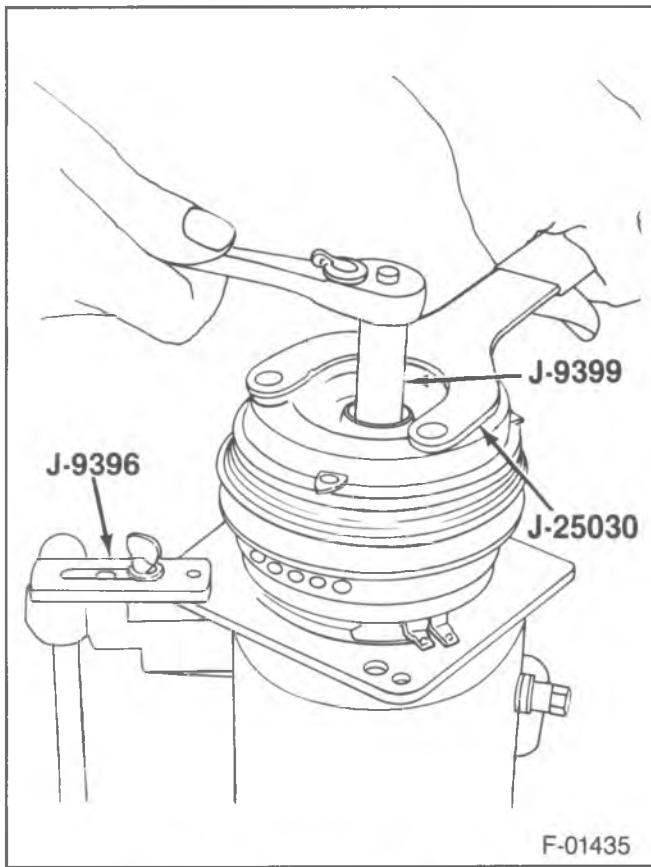
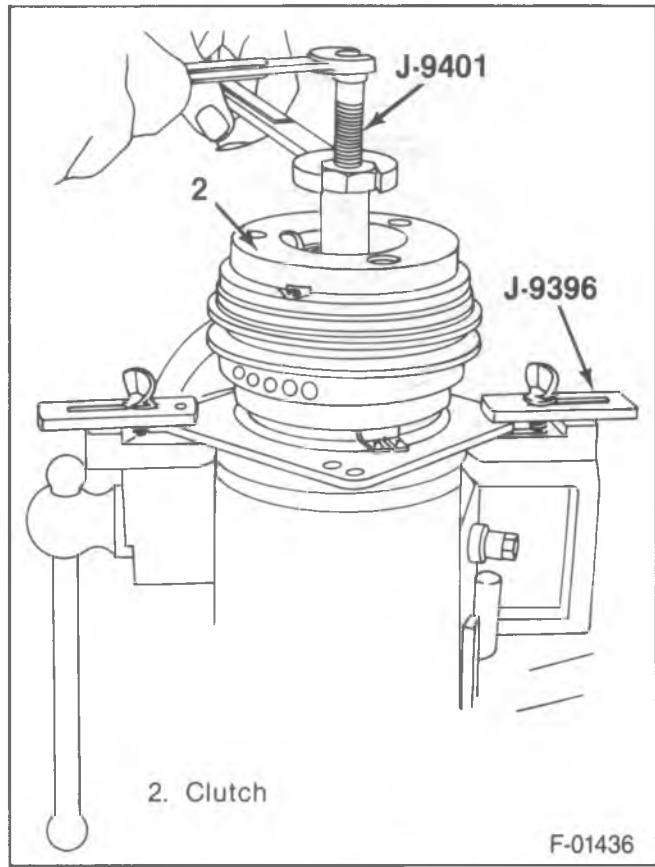

Figure 2—Removing the Shaft Nut
Figure 3—Removing the Clutch Plate and Hub Assembly
- Compressor to J-9396. Secure with thumb screws (figure 2).
- 1. Shaft nut (1) with J-9399.
- Hold the clutch plate and hub assembly (2) with J-25030 (figure 2).
- 2. Clutch plate and hub assembly (2).
- Thread J-9401-A into the clutch plate and hub (2) (figure 3).
- 3. Shaft key (36).
- Retain the shaft key (36) if usable.